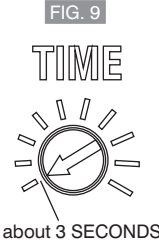

FIG. 9
- The (**TIME**) adjustment controls how long the lamp will stay on after motion has been detected. 10 different settings are possible for the time duration including the test setting (3 seconds): 10, 20, 40, 80, 160 seconds and 5, 10, 20, 40 minutes. Adjust the **TIME** control knob clockwise to increase (max. 40 minutes - fig. 10) how long the light stays on or anti-clockwise to decrease (min. 3 seconds - FIG. 9) the time delay.